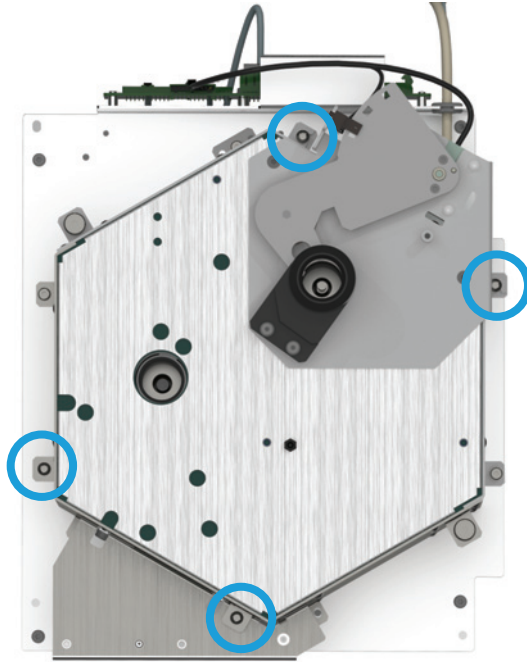

Figure 12. Remove T-20 Torx screws from the oven top assembly
- a Remove four T-20 Torx screws from the oven top assembly (**Figure 12**).